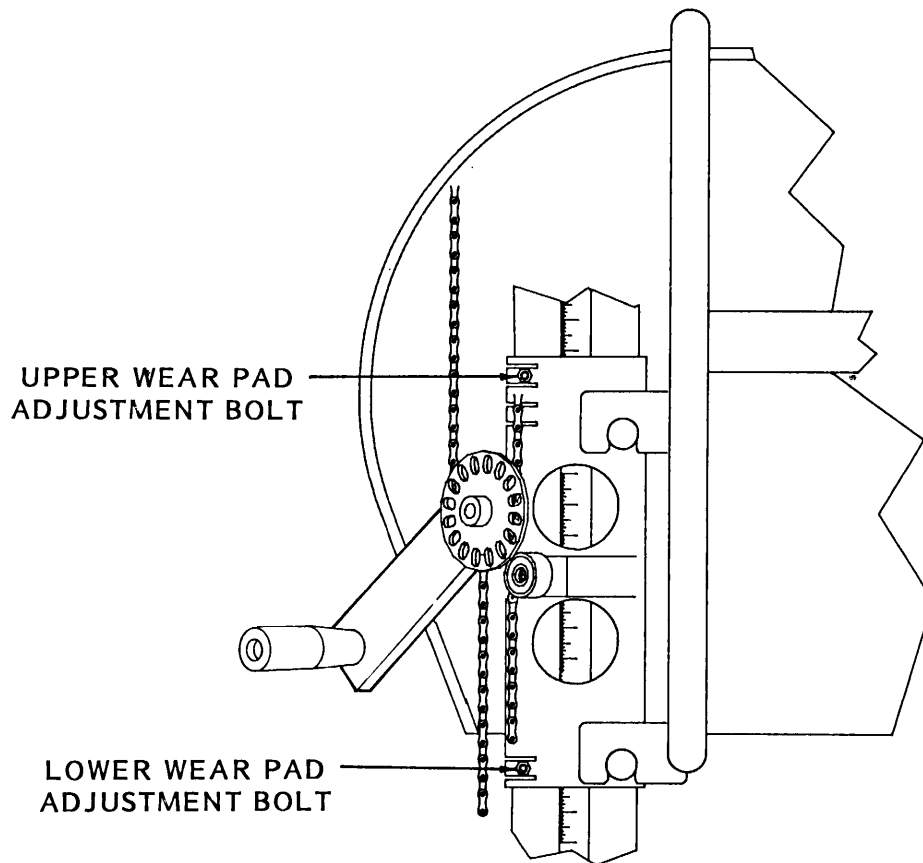

FIGURE 4
5. Adjust the wear pads on the vertical mast if there becomes noticeable side-to-side movement of the cutting head. (See Figure 4.)